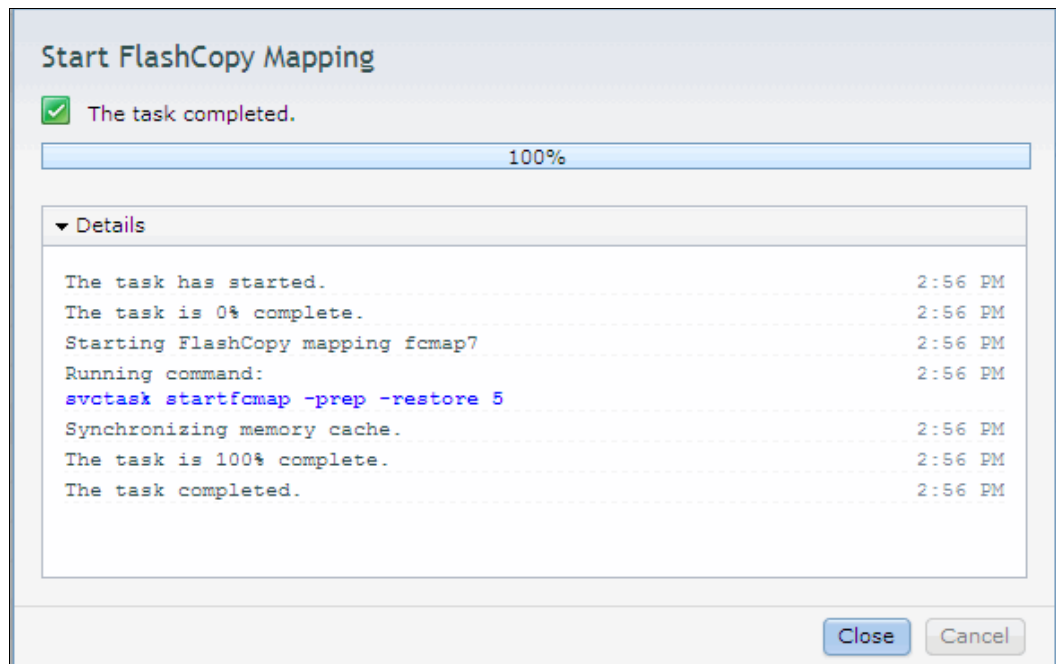

Figure 10-52 Flash Restore command
- Click **Start** to write over FlashVol1 with the original bitmap data that was saved in the FlashCopy FlashVol1_01. The command then completes, as shown in Figure 10-52.